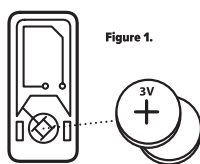

Figure 1.
1. Select the desired location for the Mini Plus and magnet and insert the batteries (positive side up¹) into the base of the VPD. **See figure 1.**